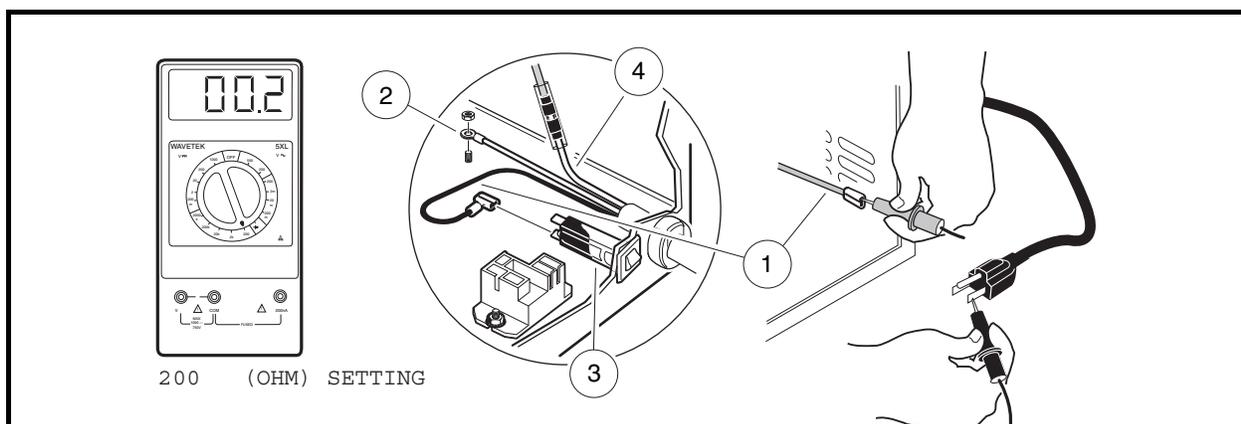

Figure 3-18 AC Cord and Plug Continuity Test
3. Disconnect the green wire (2) from charger case and position it so it does not touch any metal part of the charger (**Figure 3-18, Page 3-20**).
4. Disconnect the black wire (1) of AC cord from charger AC circuit breaker (3).
5. Disconnect the AC cord white wire (4) from the primary coil tan wire.
6. Using a multimeter set for 200 ohms, place the red (+) probe on the terminal at the end of the black wire (1). Test for continuity on each of the flat blades and then on the round pin of the AC plug. The tester should indicate continuity on one flat blade only. If any other reading is obtained, the AC cord and plug must be replaced.
7. Place the red (+) probe on the end of the green wire (2) and with the black probe check for continuity on both flat blades and on the round pin of the AC plug (**Figure 3-18, Page 3-20**). The tester should indicate continuity on only the round pin. If any other reading is obtained, the AC cord and plug must be replaced.
8. Place the red (+) probe on the white wire (4) and check for continuity on both flat blades and on the ground pin of the AC plug. The tester should indicate continuity on only one flat blade. If any other reading is obtained, the AC cord and plug must be replaced.